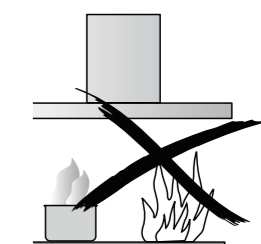

Fig. 2
- ⊗ Do not leave lit gas burners exposed due to the risk of fire. (Fig 2)